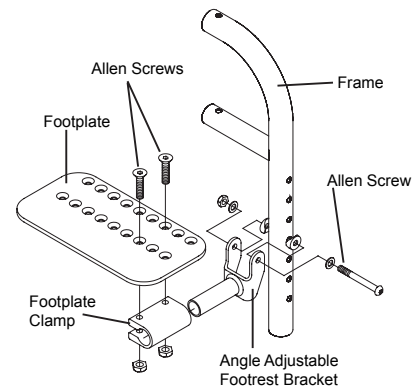

Figure 22
1. Remove the Allen Screw that secures the angle adjustable footrest bracket to the frame. See Figure 22. Make sure to note the order in which you remove the various washers and nuts when removing the Allen Screw.
1. Loosen the two Allen Screws and locknuts that secure the footplate to the footplate clamp. See Figure 22.
1. Remove the two Allen Screws and locknuts that secure the footplate to the footplate clamp. See Figure 22.